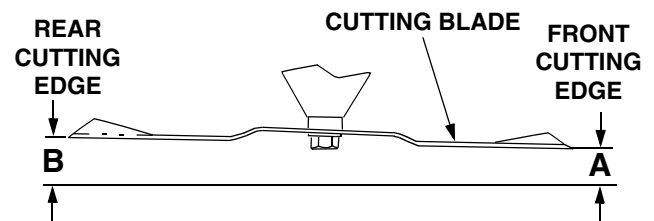

Figure 61
- Refer to Figure 61. Measure and record the distance from the front cutting edge to the ground (measurement A), and from the rear cutting edge to the ground (measurement B), for each of the blades. The front edge of each blade (measurement A) should be lower than its back edge (measurement B) by 1/8 to 1/4 inch.